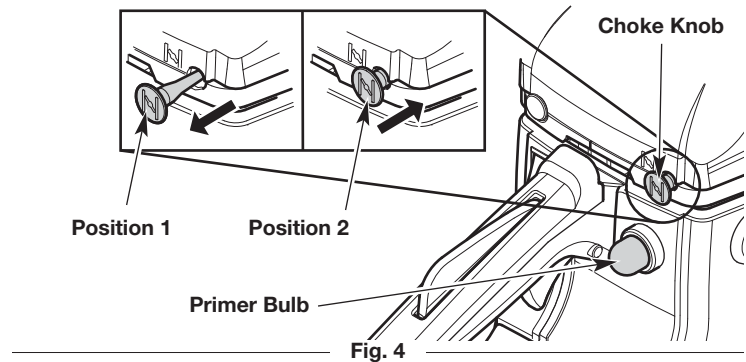

Fig. 4
6. Slowly press and release the primer bulb **10 times** (Fig. 4). If fuel cannot be seen in the primer bulb, press and release the primer bulb until fuel is visible.
7. Pull the choke knob out to **Position 1** (Fig. 4).
11. **DO NOT** touch the throttle control. Push the choke knob in to **Position 2** (Fig. 4).